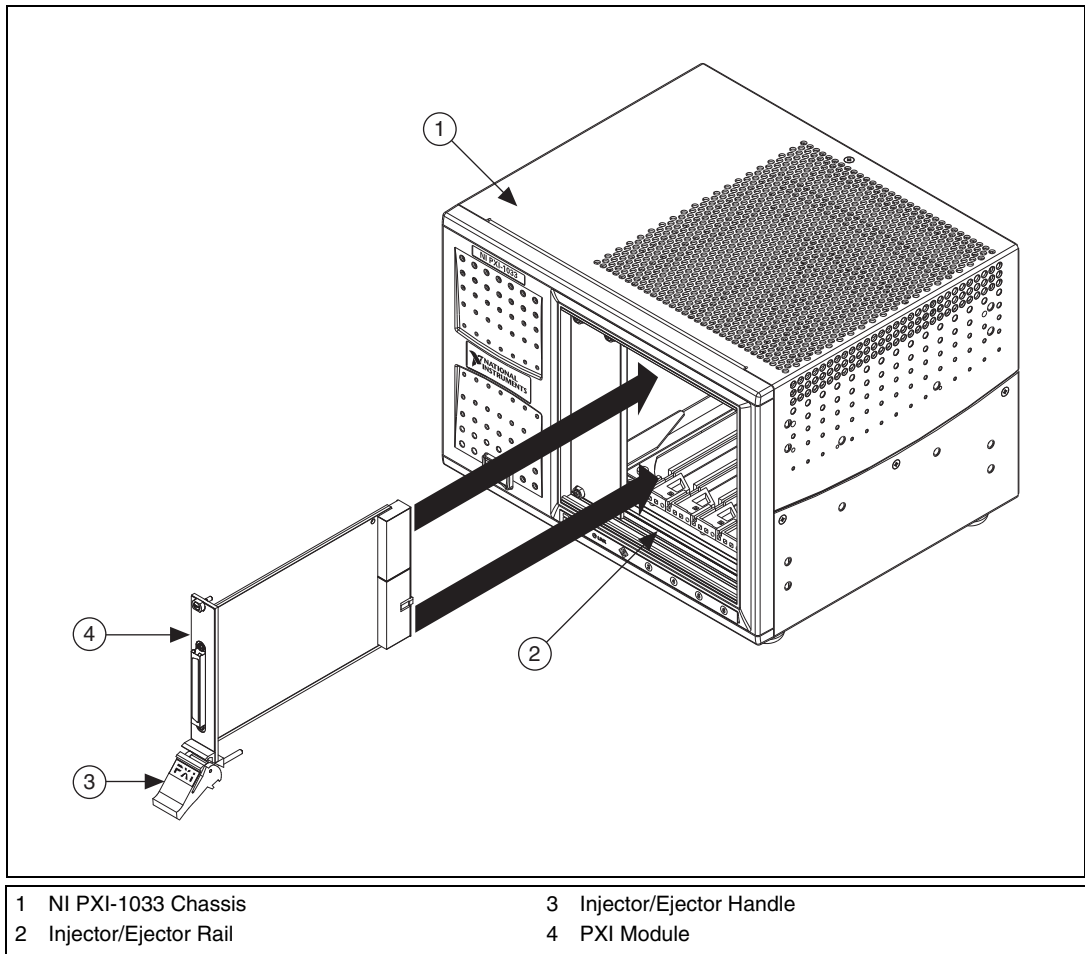

Figure 2-5. Installing PXI or CompactPCI Modules
2. Install a module into a chassis slot by first placing the module card edges into the front module guides (top and bottom), as shown in Figure 2-5. Slide the module to the rear of the chassis, making sure that the injector/ejector handle is pushed down as shown in Figure 2-5.